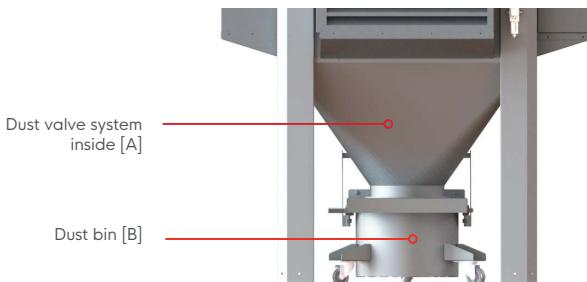

Figure 5.2: Dust collection parts
- Carefully remove the dust bin (figure 5.2 [B]).